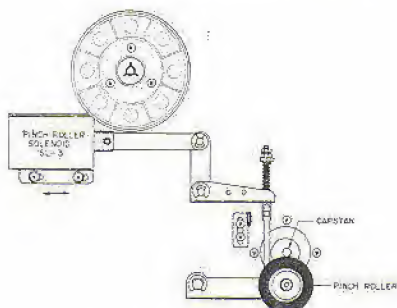

Fig. 2
2. POSITION ADJUSTMENT OF PINCH ROLLER SOLENOID SL-3 (Refer to Fig. 2)